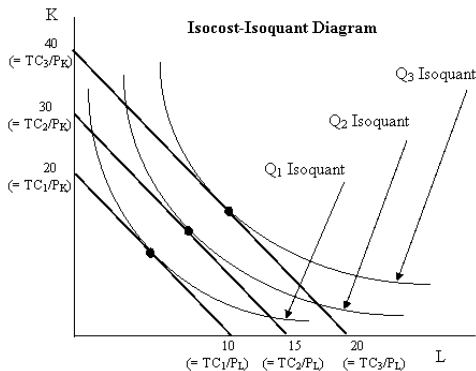

Figure 4: Isoquant and isocost lines for different levels of output
- There can be number of possible output levels as shown in figure 4 and least cost combination can be found out for these various output levels.